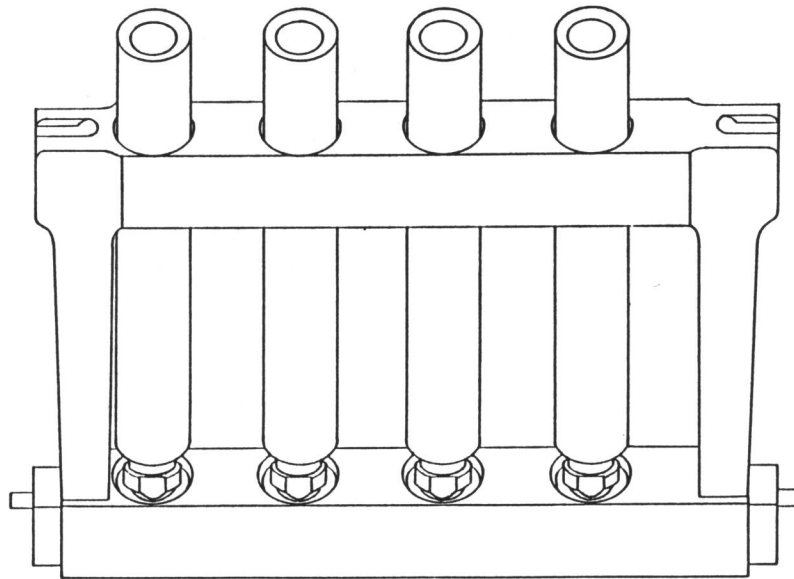

Figure 1-11
- * If you are installing the liquid ink pen cartridge, make sure that the slots are offset to the left (see Figure 1-11). Otherwise, the actuator will miss the pens.